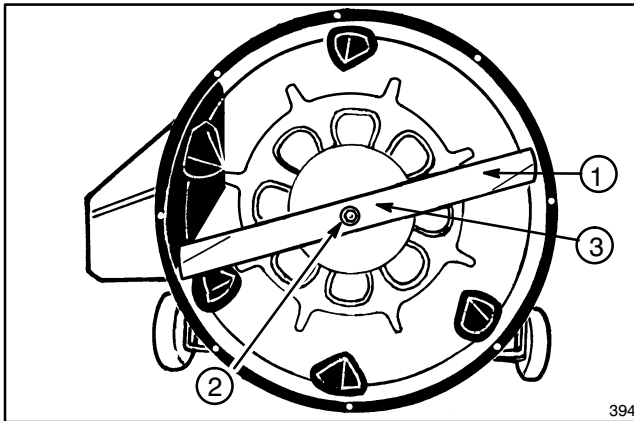

Figure 19
4. Grasp end of blade using a rag or thickly padded glove; then remove blade bolt, curved washer, blade stiffener and blade (Fig. 19).
7. In sequence, install blade, blade stiffener, curved washer and blade bolt (Fig. 19). The concave side of the curved washer must point toward the blade. Tighten blade bolt to 45-60 ft-lb (61-81 N·m).